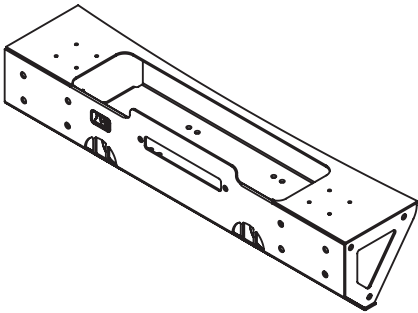
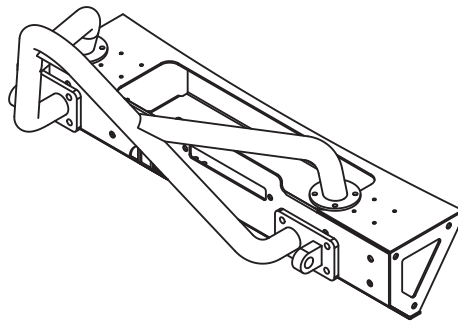
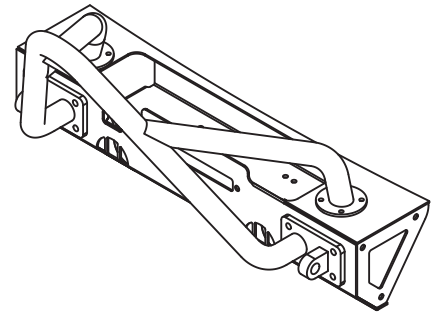

Figure 1a
Figure 1b
Figure 1c
1. If installing as part of a new installation, place center section of bumper onto frame rails, but do not yet attach. If stinger is being added to an existing installation, remove existing Hoop and D-Rings from center section. Center section should be sitting on the frame rails, but not attached (Figure 1a). Place Stinger over center section (Figure 1b) and align 8 holes on top and 8 holes on front (Figure 1c).